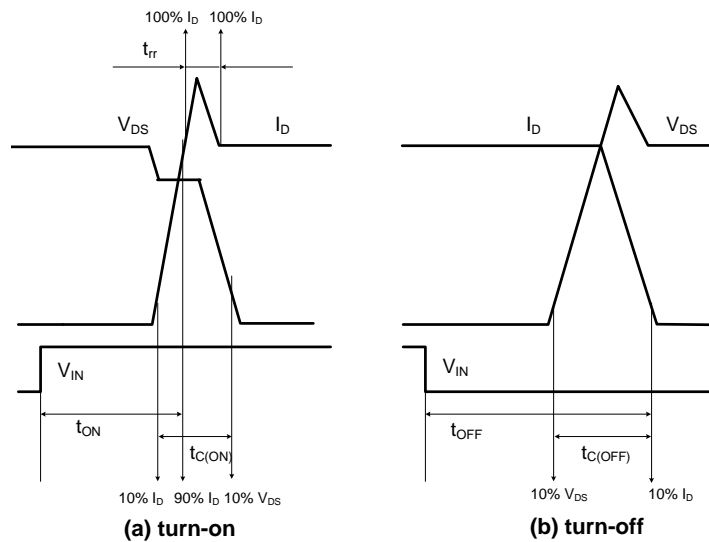

Figure 4. Switching Time Definition
- t_{ON} and t_{OFF} include the propagation delay of the internal drive IC. $t_{C(ON)}$ and $t_{C(OFF)}$ are the switching time of MOSFET itself under the given gate driving condition internally. For the detailed information, please see Figure 4.